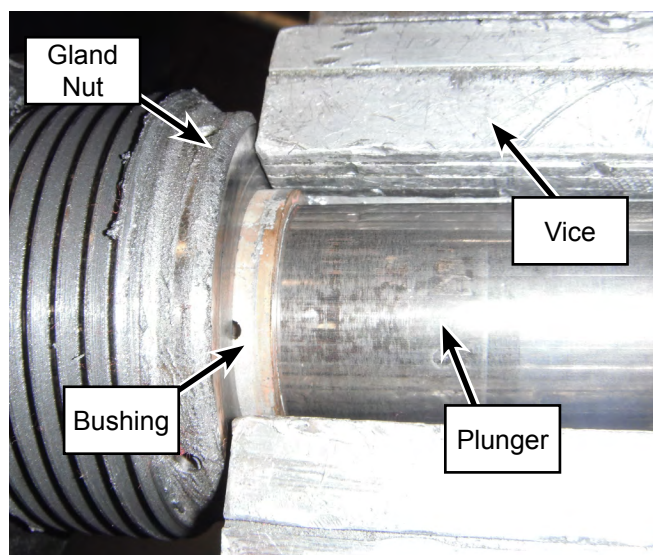
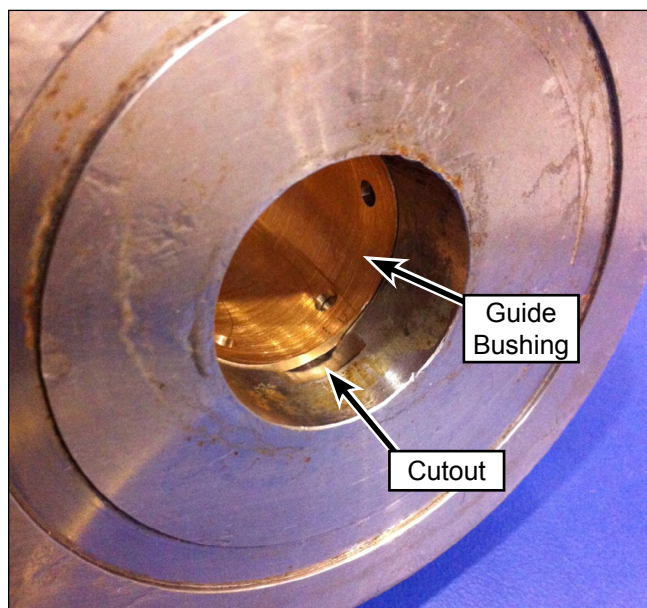

Figure 55: Using Vice to Remove A Stuck Bushing.
Figure 54: Stuck Bushing.
Note: The guide bushing may be stuck and require some force to remove. Use a tool in the cutout (Figure 54) to push the bushing out. Use caution to avoid damaging the gland nut.
As an alternative, if the bushing can be moved out of the gland nut a small distance, then a plunger can be put through the bushing and the bushing can be gripped with a bench vise. (Figure 55). This allows a tight grip without crushing the bushing and causing it to become even more stuck. The gland nut can then be wiggled, rotated, and pulled away from the bushing and plunger.
3. Place the new packing and guide bushing onto the plunger. Orient the packing as shown in (Figure 54) for 15K/20K and (Figure 55) for 40K (pg 41).